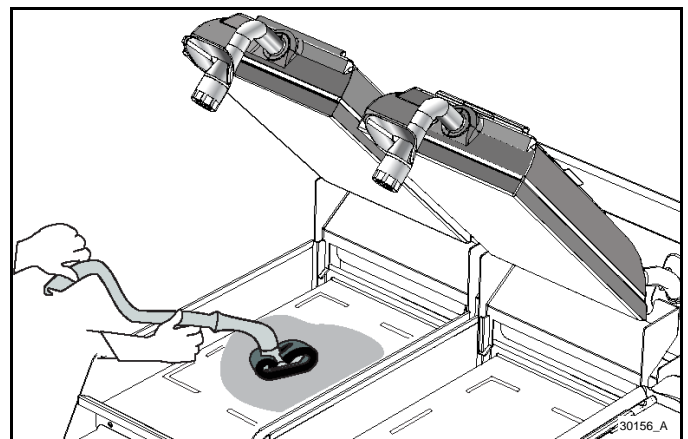

Figure-115
22. Spread the grill cleaner thoroughly on the lower surface to ensure full coverage. See Figure-115.